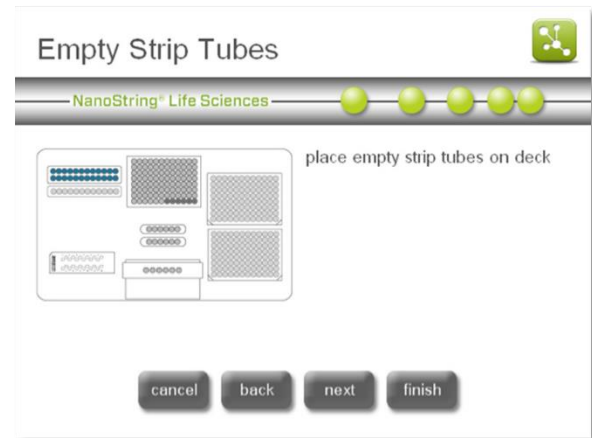

Figure 28: The 'Empty Strip Tubes' screen.
11. The 'Empty Strip Tubes' screen will appear (**Figure 28**). Place the empty strip tubes on the deck. Press **next**.